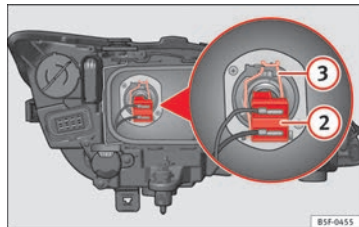

Fig. 185 Dipped beam headlights.
- Remove connector ⇒ Fig. 185 ② from the bulb.
- Unclip the retainer spring ⇒ Fig. 185 ③ pressing inwards to the right.